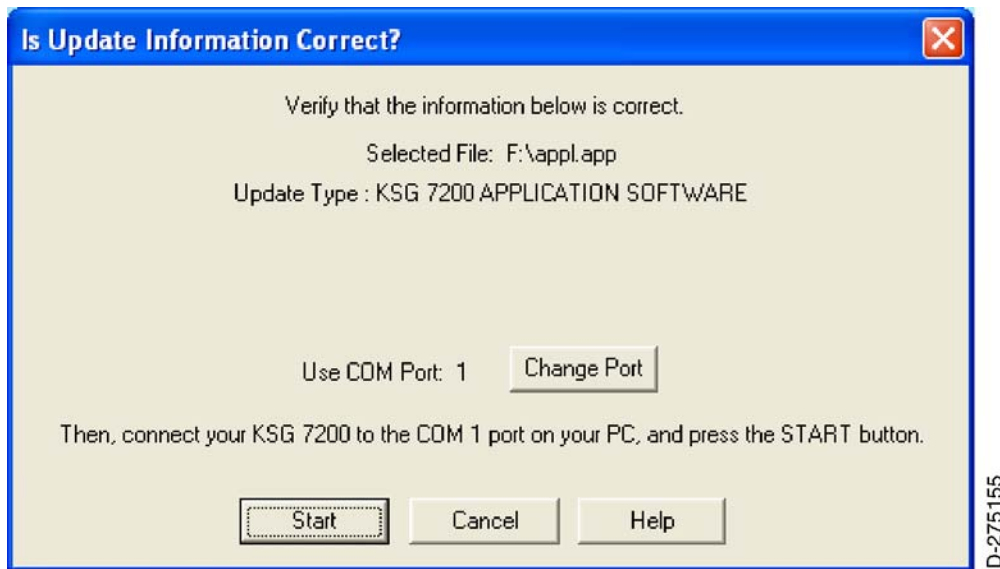

Figure 13. (Sheet 1 of 1) Is Update Information Correct? Window
- (13) Click on the appl.app application file from the CD-ROM and click Open.
- (14) The Is Update Information Correct? window will appear. Refer to Figure 13. Verify that the information displayed is correct. If using a different COM port than displayed, it will be necessary to Change Port.